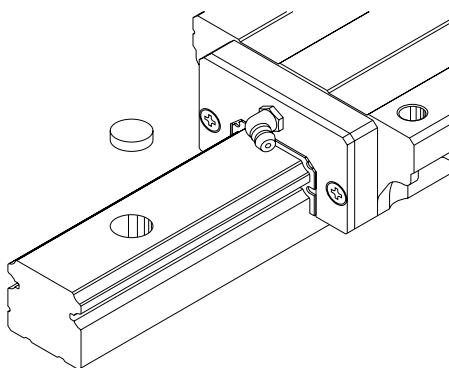

Fig. 3
- › After the rail is mounted to the machine base, a cap is used to cover the bolt hole to prevent foreign matter from clogging up the hole or from entering the ball slide (Fig. 3).